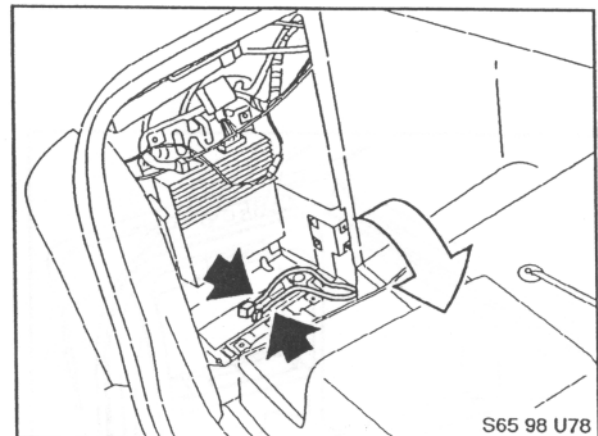

Figure 6
7. Locate the CD Audio Cable (6-pin) and Power/I-Bus Cable (3-pin), which are terminated behind CD changer Trunk Trim Cover in the left side (driver's side) of the trunk (see Figure 6).